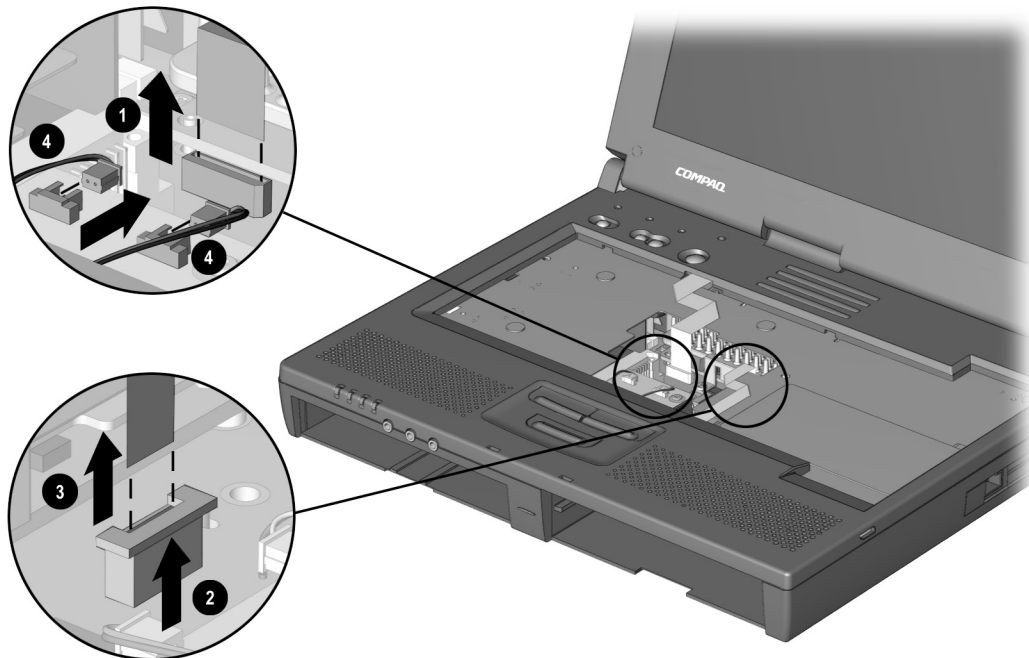

Figure 5-33. *Disconnecting the TouchPad, Pick Button, and Speaker Cables*
10. Release the ZIF connector to which the pick button cable is connected ❶ (Figure 5-33).
11. Disconnect the pick button cable ❷.
12. Disconnect the TouchPad cable ❸ from the system board (TouchPad models only).
13. Disconnect the left and right speaker cables ❹ from the audio board.